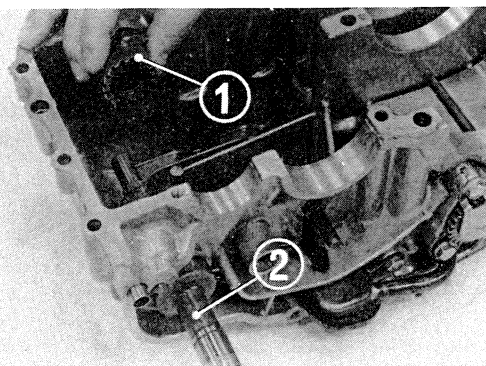

Fig. 14 (1) Kick starter ratchet
2. Install the kick starter ratchet with the kick starter spindle placed in the position shown in Fig. 14.